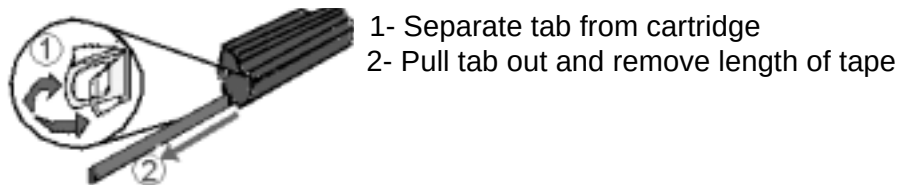

Figure 20. Removing The Sealing Tape
3. Locate the sealing tape tab on the end of the cartridge. Carefully bend the tab back and forth until it separates from the cartridge. Firmly pull the tab straight out from the cartridge to remove the entire length of tape as shown in Figure 20. Avoid touching any black toner on the tape.